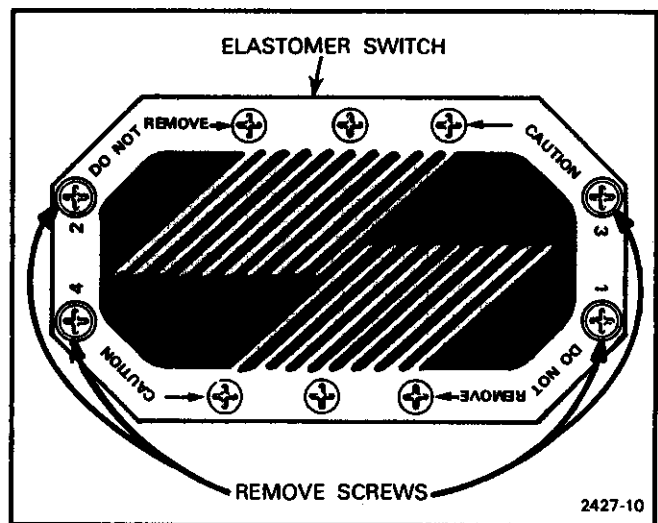

Figure 4-5. Retaining screws for elastomer switch.
3. Hold the elastomer housing against the circuit board while removing the four 4-40 screws that hold the switch to the circuit board. Figure 4-5 shows the retaining screws. Do not loosen the other screws.